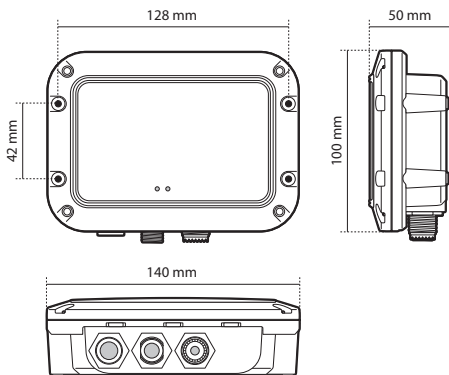

Figure 5 AIS receiver dimensions
- There should be adequate space around the AIS receiver for routing of cables. See Figure 5 for details of the AIS receiver dimensions.